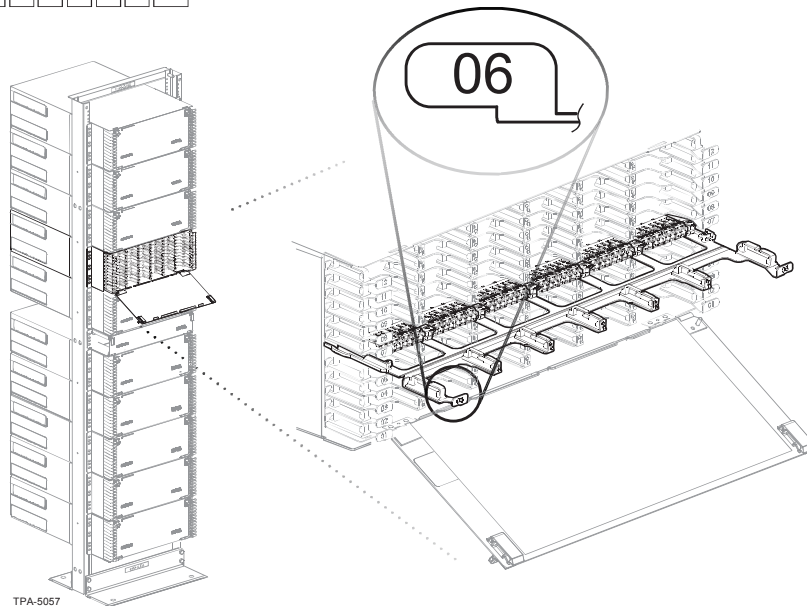

Figure 30 — Tray Label Location
Step 3: Tray Location (Figure 30)